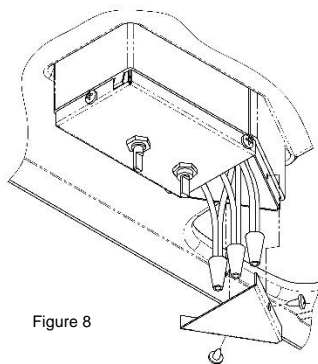

Figure 8
- D. Connect the supply power black conductor to the black pigtail wire, the white conductor to the white pigtail wire and the supply ground conductor to the green pigtail wire found in the wiring box using the 3 provided wire nuts. Using a U.L. approved electrical tape, secure the wire nuts to wires in a workmanlike manner (See Figure 8).
- E. Press supply conductors and wire nuts into wiring box and making sure no wires are pinched, secure the wire box cover with 2 provided screws (See Figure 8).